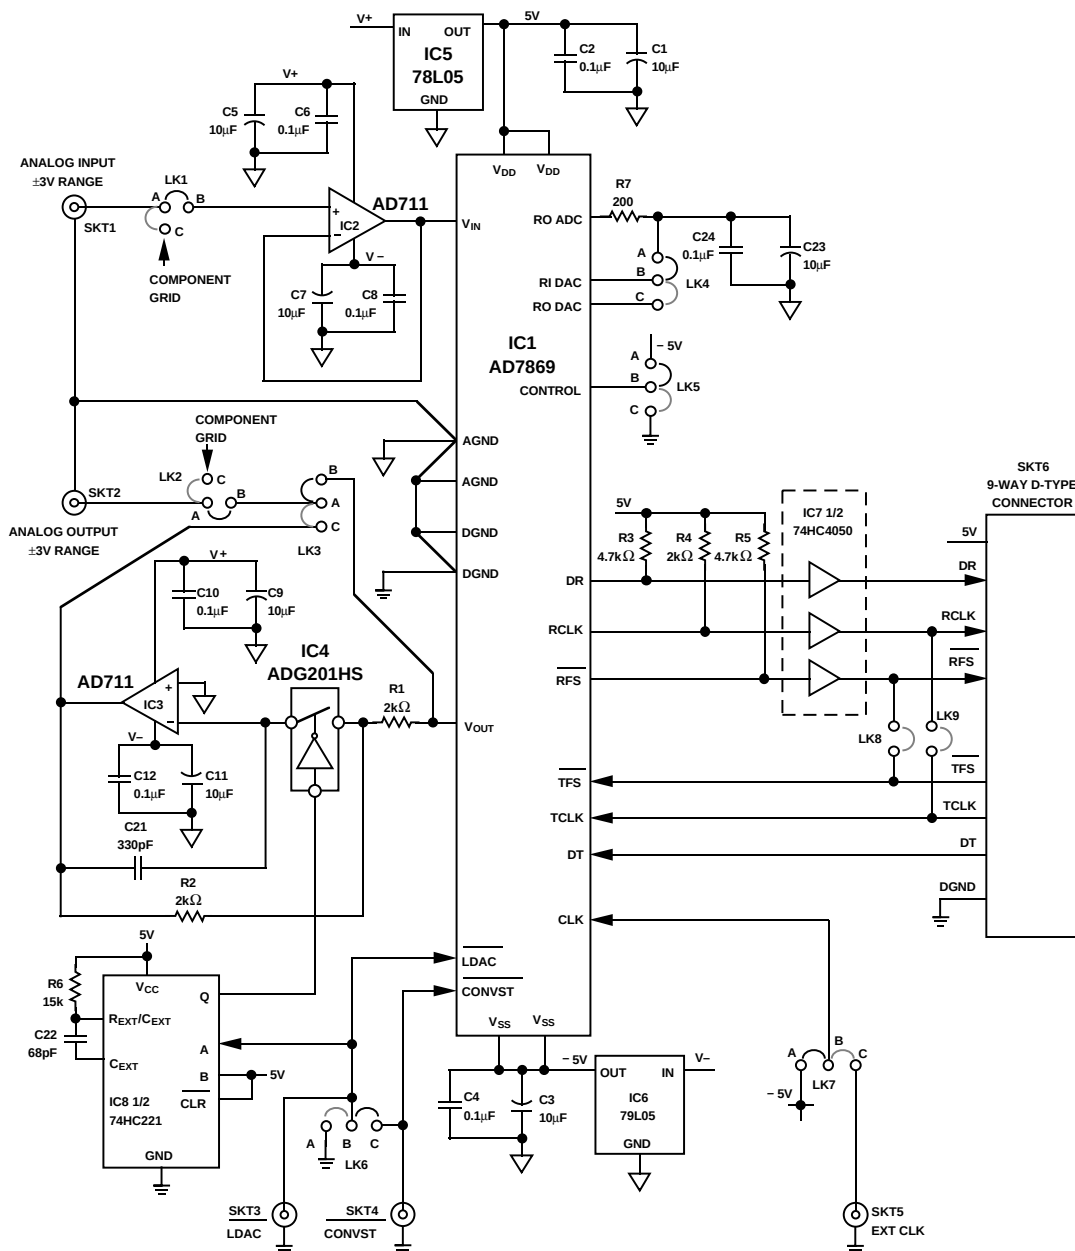
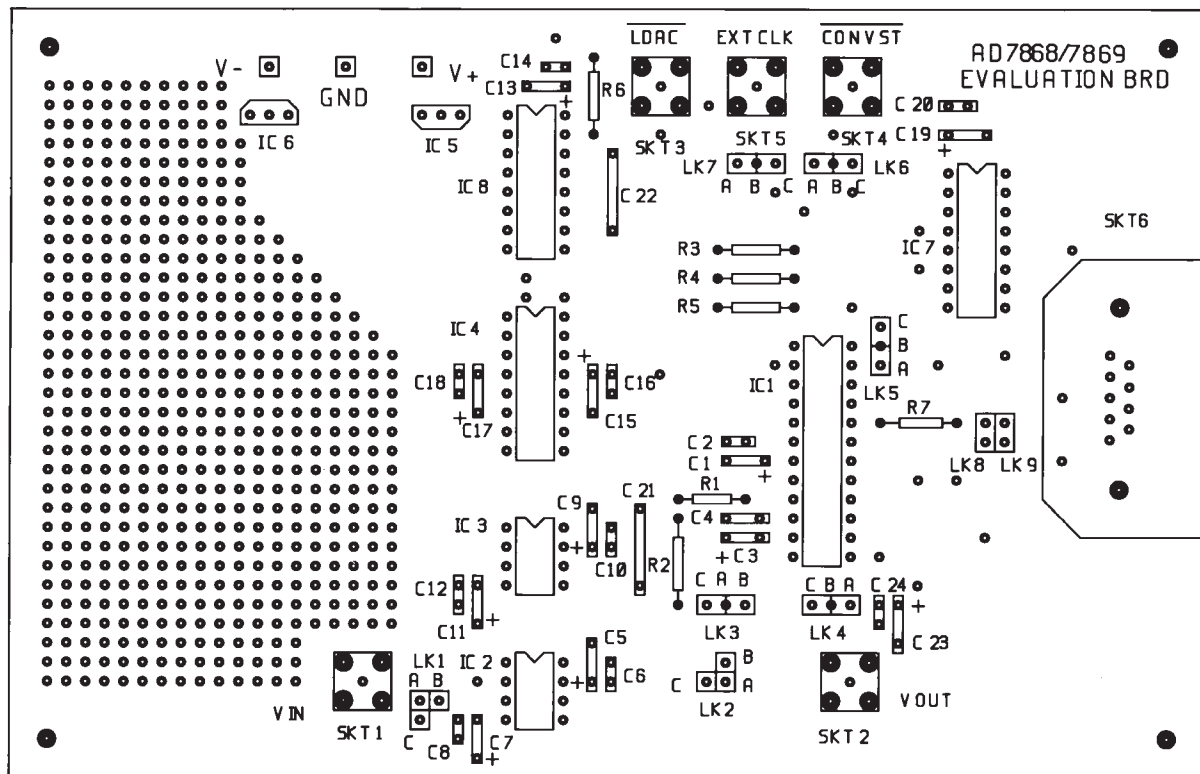

Figure 19. Input/Output Circuit Based on the AD7869
Figure 21. Silkscreen for the Circuit Diagram of Figure 19
Figure 19 shows an analog I/O board based on the AD7869. The corresponding printed circuit (PC) board layout and silkscreen are shown in Figures 21 to 23.
The PC board requires two analog power supplies and one 5 V digital supply. Connections to the analog supply are made directly to the PC board as shown on the silkscreen in Figure 21. The connections are labeled V+ and V–, and the range for both of these supplies is 12 V to 15 V. Connections to the 5 V digital supply are made through the D-type connector SKT6. The  $\pm 5$  V analog supply required by the AD7869 is generated from two voltage regulators on the V+ and V– supplies.